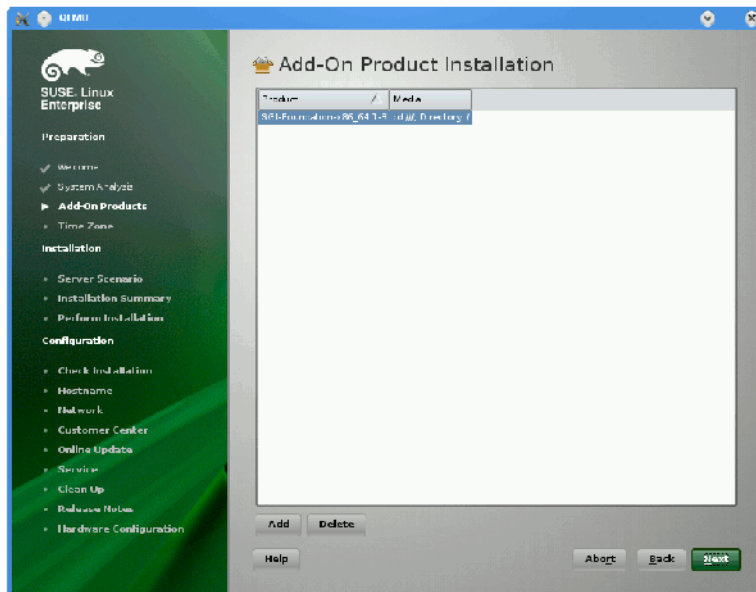

Figure 1-18 SLES11 SP1 Add-On Product Installation Screen Showing SGI Foundation
5. From the **Add-On Product Installation** screen, as shown in Figure 1-18 on page 26, click on **SGI-Foundation-x86_64 1-6 cd:///Directory** and click the **Add** button and then **Next** to proceed